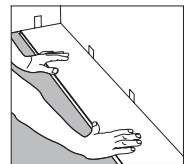

Figure 1
1. Starting from the LEFT with the tongue facing the wall, carefully place the first board in place. Use spacers along the wall allowing required expansion gap (3/8" or 10 mm). (Figure 1)